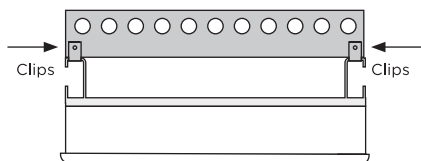

Figure 8: Top View
- Screw the top side of the inverter to the mounting plate with the screws provided, as shown in Figure 8.